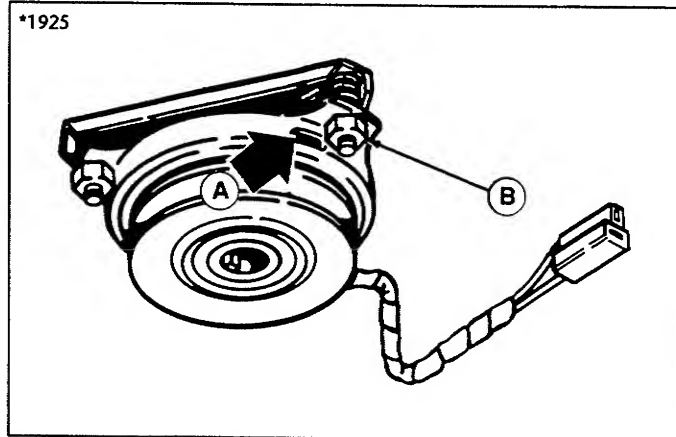

Figure 34. Electric Clutch Adjustment
2. Use a .010 to .012 feeler gauge to check the electric clutch at three places (A, figure 34). Insert the gauge. There should be a slight resistance as gauge is moved in and out of slot. If tight, or loose, go to step 3.
3. Loosen or tighten one of the nuts (B) to adjust one of the three places. Loosen nut to increase gap; tighten to decrease gap.